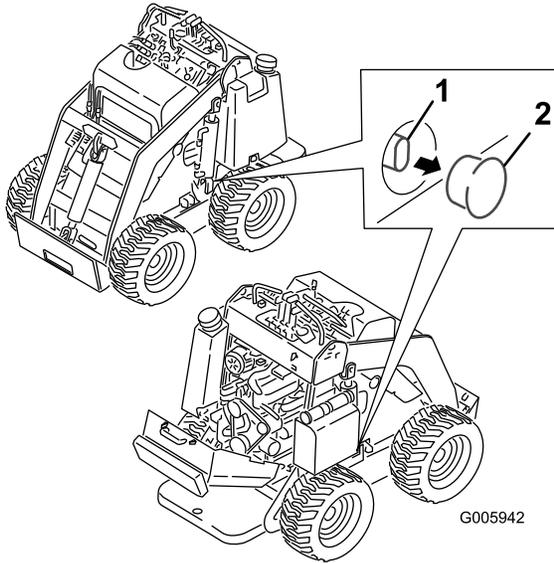

Figure 19
2. Remove the plug covering each tow valve, located under each fuel tank (Figure 19).